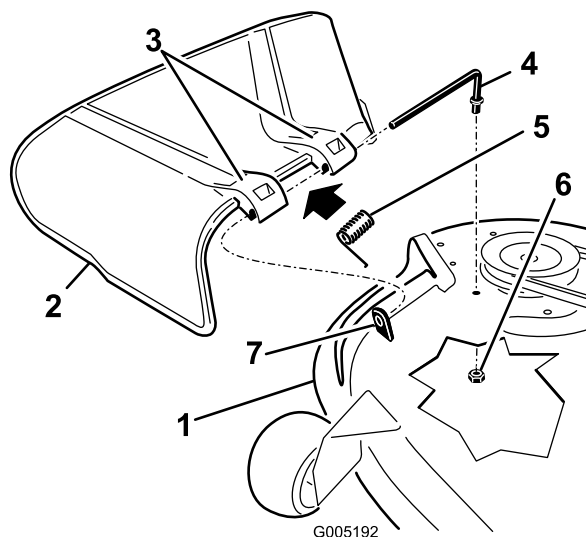

Figure 70
- Remove the nut (3/8 inch) from the rod under the mower (Figure 70).
- Slide the rod out of the short standoff, spring, and the grass deflector (Figure 70).
- Replace the grass deflector (Figure 70).
- Slide rod through the second grass-deflector bracket (Figure 70).
9. Secure the rear end of the rod into the mower with a nut (3/8 inch) as shown in Figure 70.